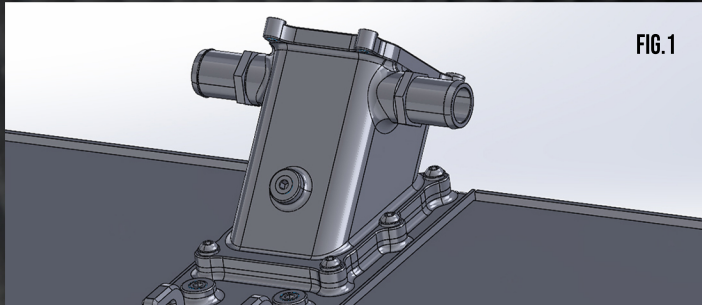

FIG. 1
- PORSCHE PART # 992.145.805.D - USE FITTINGS IN FIGURE 1 (LEFT) FOR 922'S EQUIPPED WITH PORSCHE SOUND GENERATOR